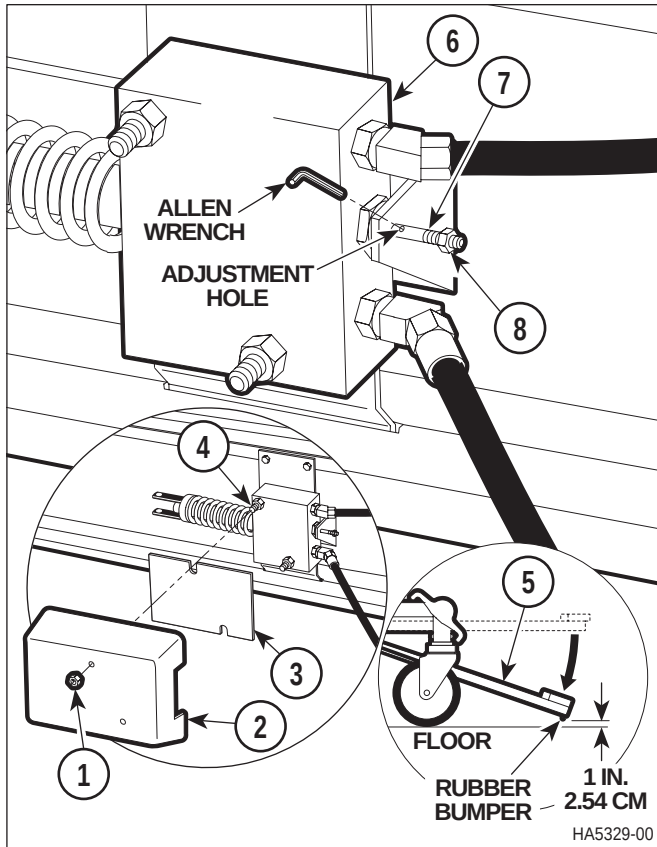

Figure 4-10. Pump Assembly Release Point Adjustment
- (2) Remove two nuts (1, Figure 4-10), pump cover (2), and pad (3) from two bolts (4).
- (3) Pump foot pedal (5) five to six times to partially raise stretcher.